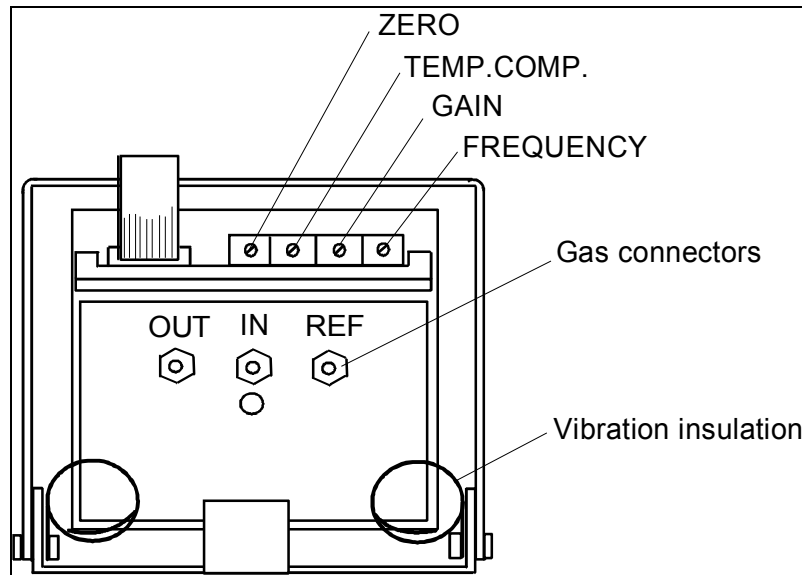

Figure 17 O₂ measuring unit adjustments
2. Let the monitor draw in room air and adjust the voltage to zero with the O₂ measuring unit trim resistor designated 'ZERO' (see figure 17) in the O₂ module PC board. The potentiometers are located at the same side of the measuring unit as the tubing connectors.
2. Sample 100 % oxygen and adjust the measuring unit output to between 7.7 V and 8.3 V with the trim resistor designated 'GAIN' (see figure 17). If the output will not exceed 7.7 V, it is acceptable that the output exceeds at least 5 V. At that level software is still able to compensate the output.